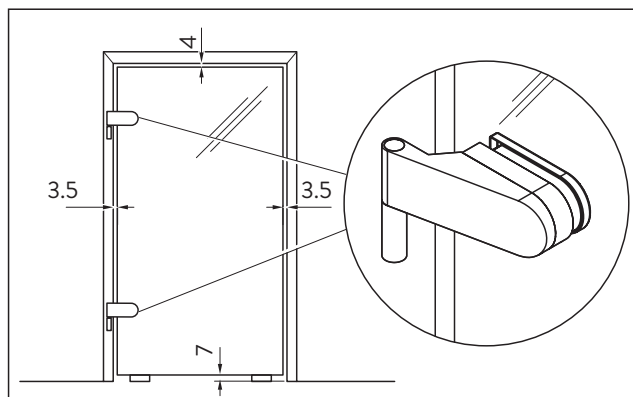

Abb. 15 Gaps
2. Prop up the glass door panel in the mounting position on wooden blocks and align vertically. Note the gaps (see Fig. 15)